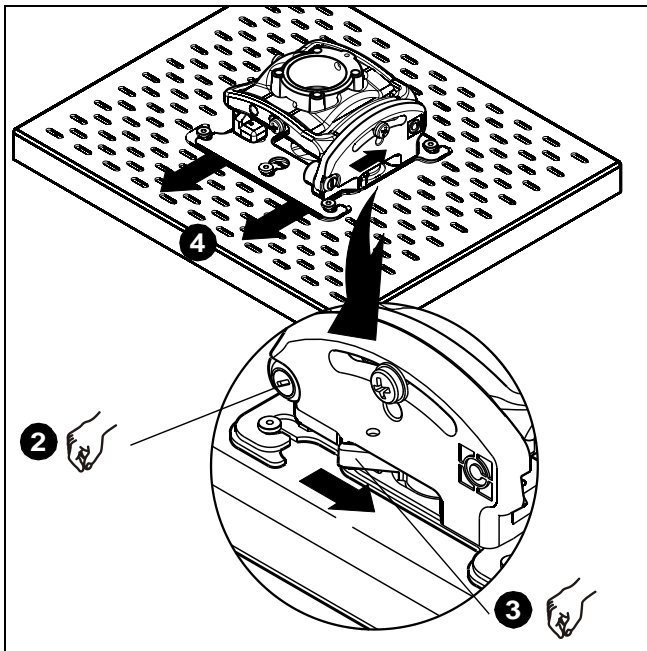

Figure 1
2. Insert key into lock and turn to unlock the projector from RPM head. (See Figure 1)
3. Moving locking lever to "Unlocked" position. (See Figure 1)
4. Remove the RPM head from RPMA1 top. (See Figure 1)